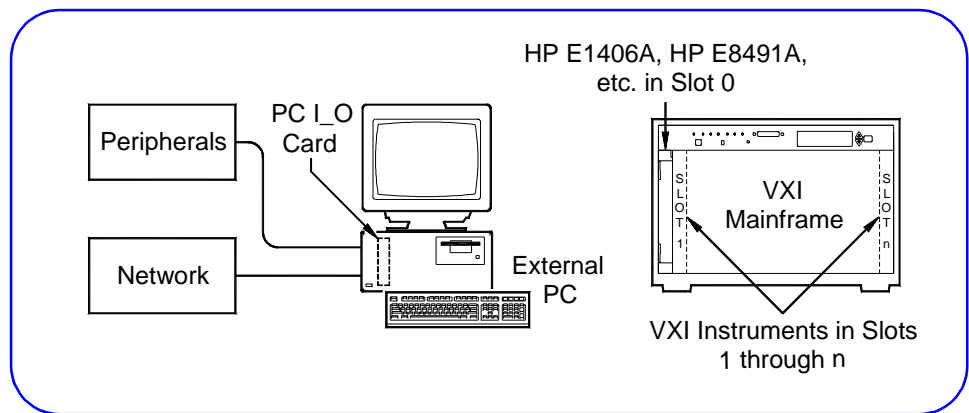

Figure 18. Installing VXI Instruments in the Mainframe
- 2 Turn mainframe power OFF. Then, install each VXI instrument in the slot(s) you previously identified. Figure 18 shows the hardware connected at the end of this step.